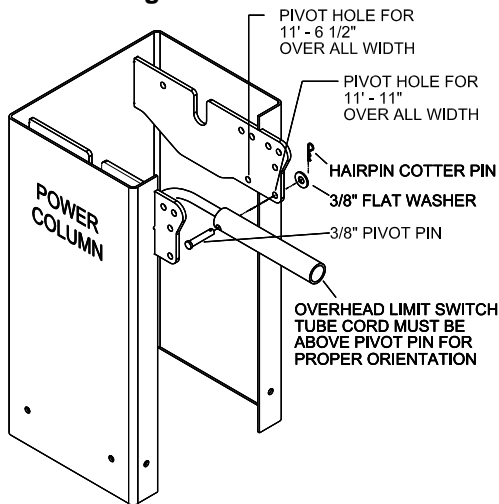

Fig 14a – Overhead Limit Switch Sub-Assembly
- 35) Install Overhead Limit Switch to **REAR** of Power Column using (1) 3/8" pivot pin, (1) 3/8" flat washer and (1) hairpin cotter pin as shown below. Switch **MUST** pivot freely on pin for proper function. **NOTE** switch tube cord is to be oriented **above** pivot pin as shown in **Fig 14a**.